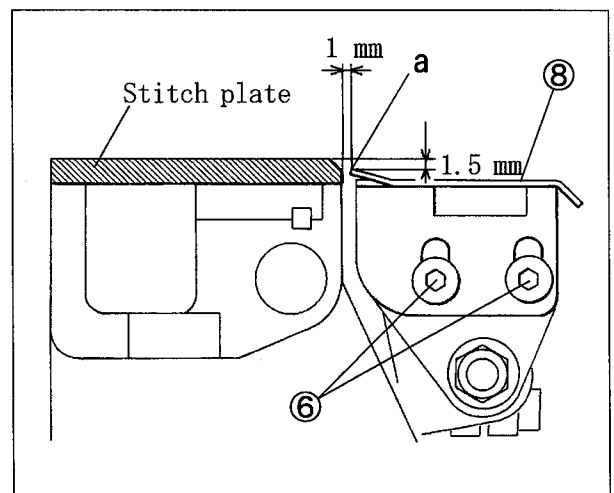

Fig. 9
(5) Loosen the screw ⑨ to make the clearance between the tip “a” and the stitch plate to about 1 mm with the stop ⑩ when setting the folder ⑦. Tighten the screw ⑨ securely. (Figs. 9 and 10)
(6) Install the supporting plate ⑪ on the cylinder of the machine ⑫ to support the fabric guide support ⑧.